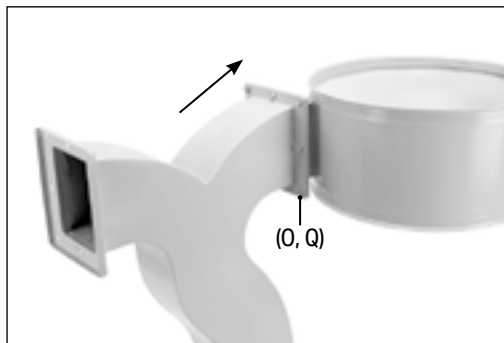

Fig. 8
- c. Pass eight M8 x 16mm bolts (O) each through a washer (Q), then through the extraction chute, gasket and collection bag duct to fix the parts in place (Fig. 8).
- d. Place an upper support rod (M) against the outer face of the lower support rod so that the holes align and the hook extends over the collection bag duct.